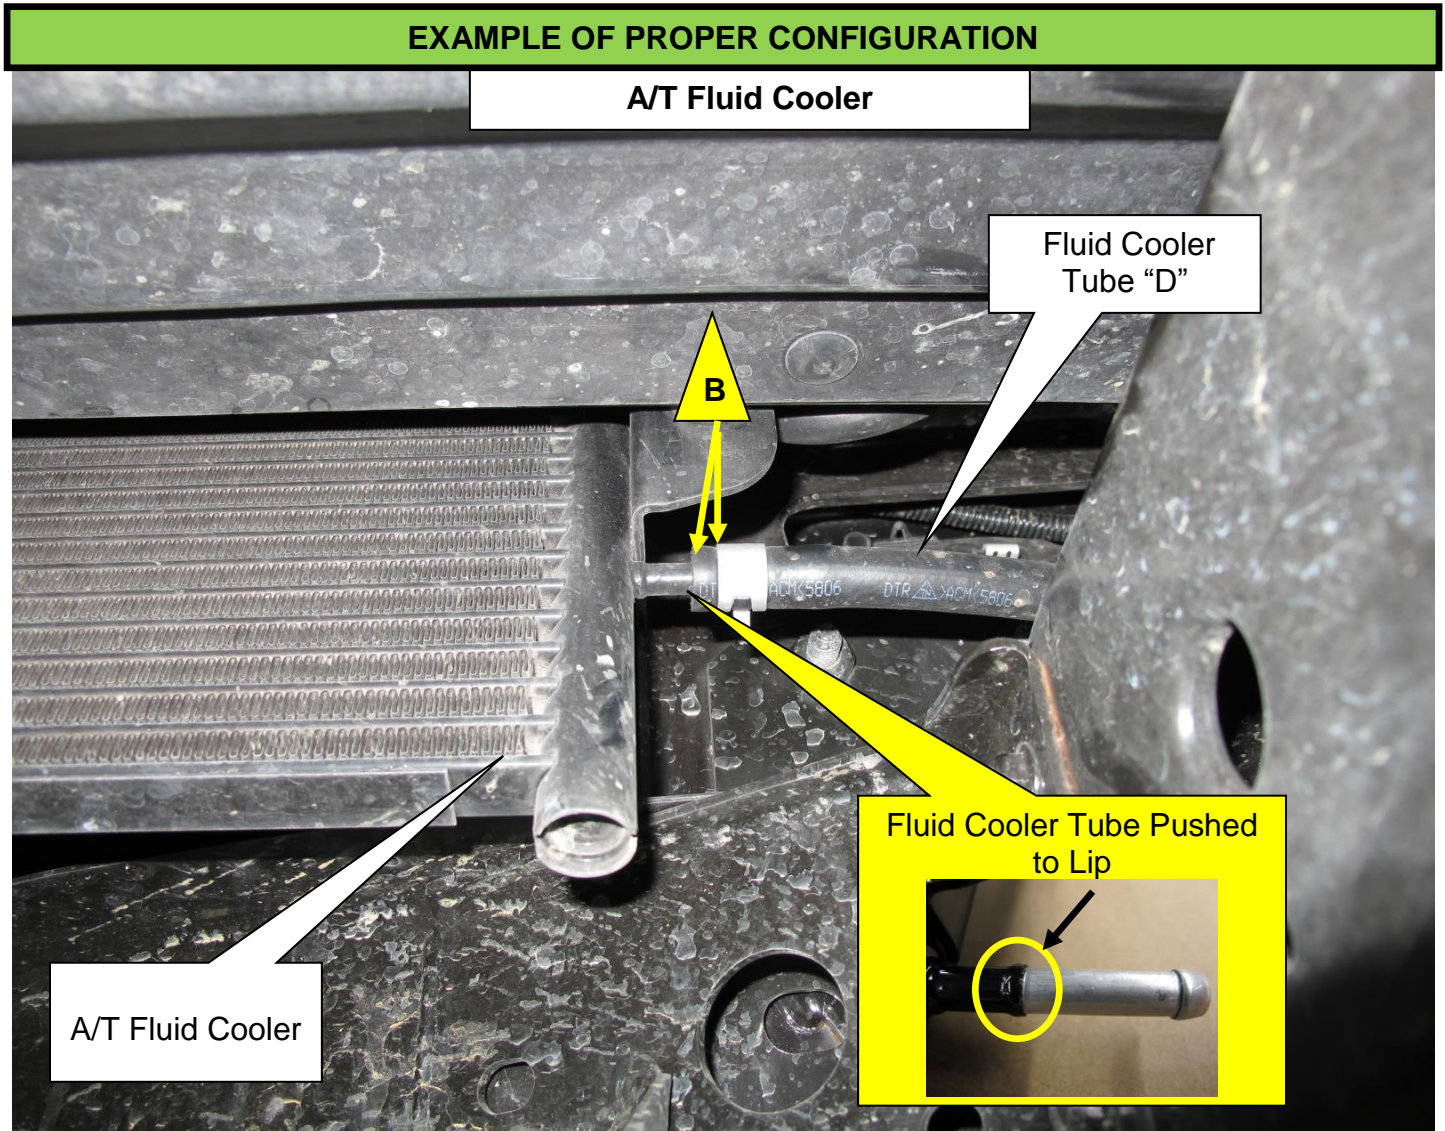

Figure 12
11. Inspect fluid cooler tube "D" for proper configuration (Figure 12).
13. CORRECT A/T FLUID COOLER HOSE IF NOT PROPERLY INSTALLED, REFERENCE STEP 11 (FIGURE 12).